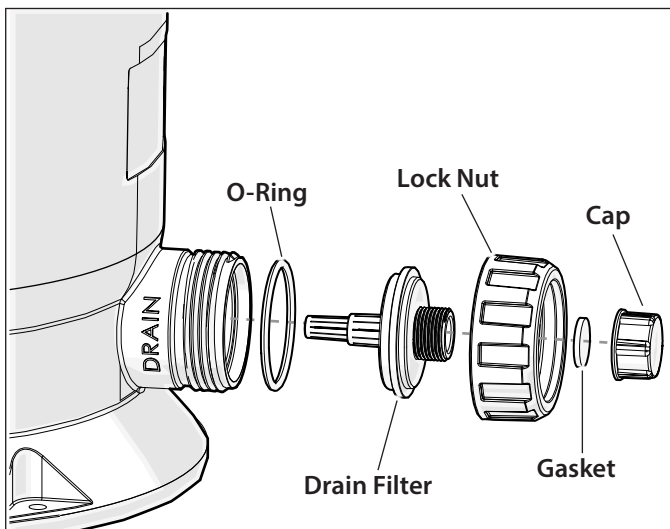

Figure 8. Drain Cap
10. Install the drain cap assembly into drain port (Figure 8).